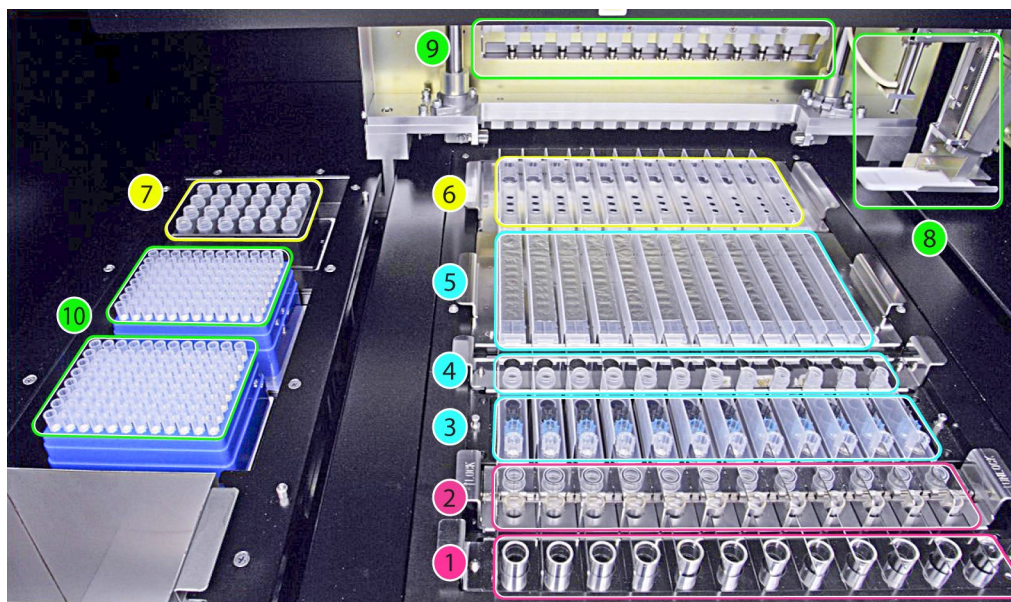

Figure 1: The «**ELiTe InGenius**» loading area
An overview of the «**ELiTe InGenius**» instrument is shown in Figure 1.
Figure 1 shows: Primary tube rack position (1), Extraction tube and cap rack position (2), Tip rack position (3), Elution tube rack position (Elution tube) (4), Extraction cartridge rack position (5) and PCR cartridge rack position (6), PCR and Internal Control reagent block (inventory manager) position (7), sample and reagent dispensing (8, 9), the waste box (left bottom) and tips positions (10).
6. To confirm that sufficient reagents for the number of tests selected are placed in the inventory manager position 7 (cfr. page 10, Figure 1) as indicated on the screen, press the "Next" button.
7. Place sufficient Tips racks in position 10 (cfr. page 10, Figure 1).
9. Place the PCR cassettes indicated in position 6 (cfr. page 10, Figure 1).
11. Place the Extraction cartridge cassette(s) indicated in position 5 (cfr. Page 10, Figure 1).
13. Place the “Elution Tubes” into Elution Tube Rack, indicated in position 4 (cfr. page 10, Figure 1).
15. Place the amount of “Tip package” indicated in position 3 (cfr. page 10, Figure 1).
17. Place the “Extraction Tubes” indicated in position 2 (cfr. page 10, Figure 1).